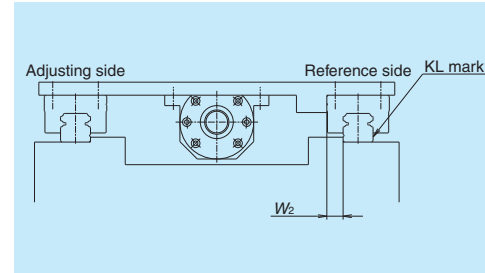

Fig. 10.2 Most common setting of the reference side rail
- When the datum surfaces of the reference side rail and slides are pressed to their respective mounting datum surfaces, the variation of distance (mounting width  $W_2$  or  $W_3$ ) between the datum surfaces of the rails and that of the slides must be minimized as set by the accuracy standard. (Figs. 10.2 and 10.3)